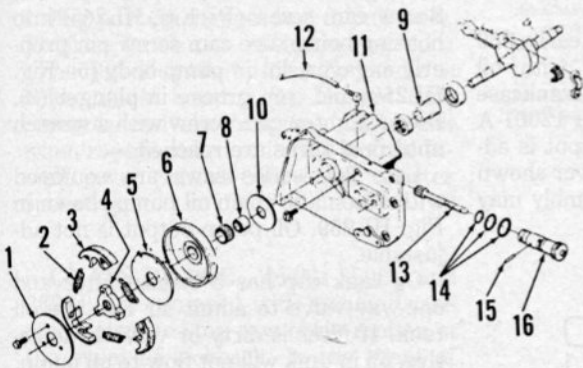

Fig. HL259—Exploded view of oil pump assembly used on later 360 series and clutch used on some later 360 models.
Fig. HL265—Oil line fitting (O) must be pointing towards 8 o'clock position and oil line routed as shown. Cam screw (P) must be installed carefully on models so equipped to insure proper meshing with cam in plunger (2—Fig. HL259).
CLUTCH. Models are equipped either with the three-shoe centrifugal clutch shown in Fig. HL259, HL260 or HL261 or a 1-piece "S" configuration clutch similar to that shown in Fig. HL262. Clutch may be removed by holding fly-wheel with a ¼ inch rod (Fig. HL254) and turning clutch hub clockwise as shown in Fig. 263.
CHAIN OIL PUMP. All models are equipped with a plunger type automatic chain oil pump as shown in Fig. HL259 or HL260. The pump is driven by worm (9) on the engine crankshaft.
Late 360 series saws are equipped with automatic chain oil pump shown in Fig. HL259. Oil pump output is not adjustable.